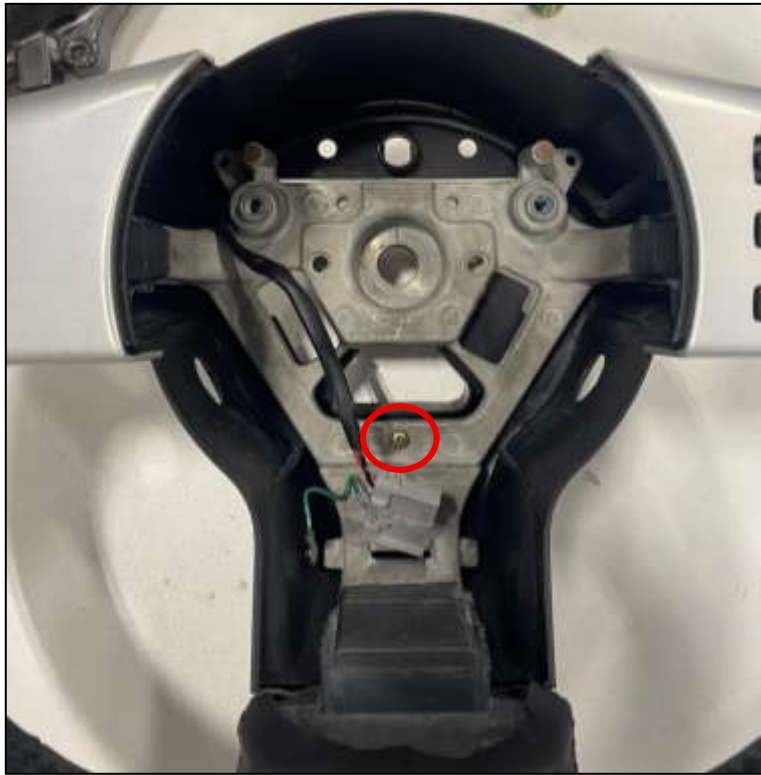

Figure 8
14. Remove the (1) one screw at the bottom of the Steering Wheel. *Figure 8.*